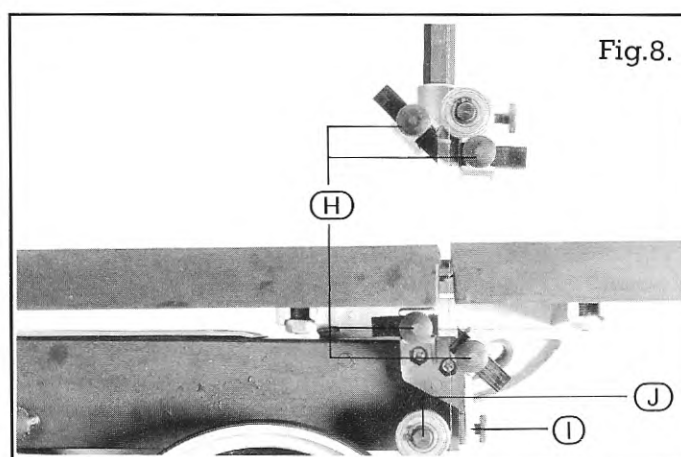

Fig.8.
4. Loosen the upper and lower blade guide locking screws (H) and move the blade guides away from the blade (Fig.8).